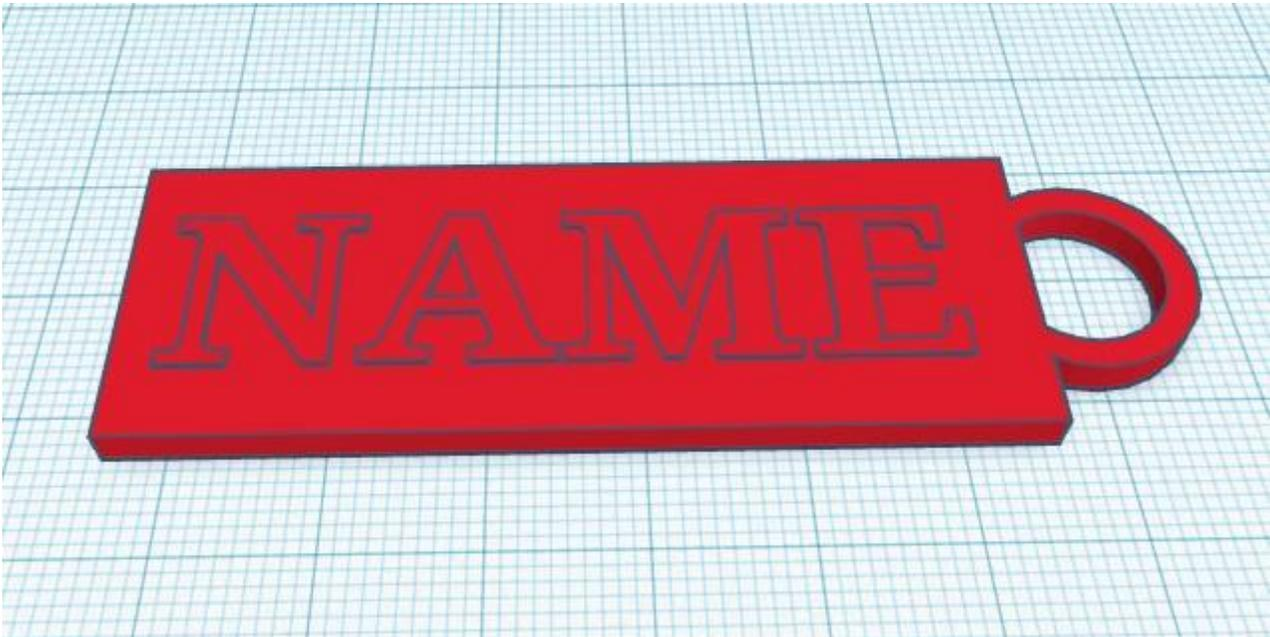

Fig.2.24 Keychain is ready
15. Admire your finished keychain! (Refer fig. 2.24)